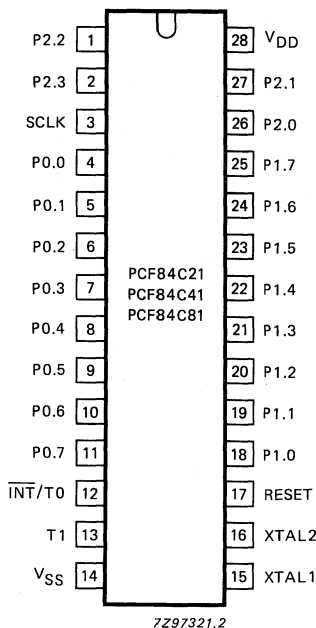

Fig. 2 Pinning diagram.
3. Bottom pinning is identical to that of Fig. 2.